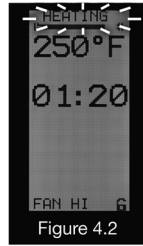

Figure 4.2
**NOTE:** When the actual temperature is more than 10°F below set temperature, the display will say HEATING (Fig. 4.2), with a heating progress bar shown below the HEATING. When the actual temperature is less than 10°F below the set point, the HEATING display will change to READY.